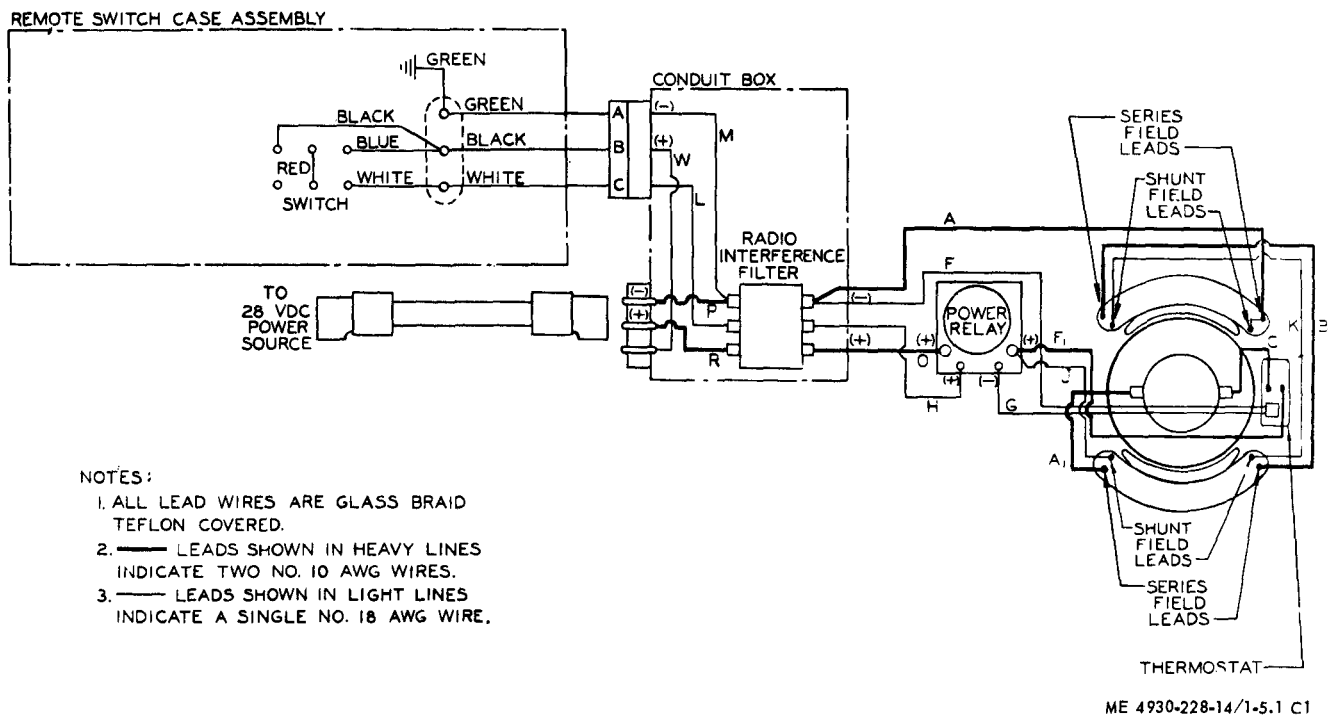

Figure 1-5.1. Practical wiring diagram.
(6) *Wiring diagram*. A practical wiring diagram of the electrical system is illustrated in figure 1-5.1.